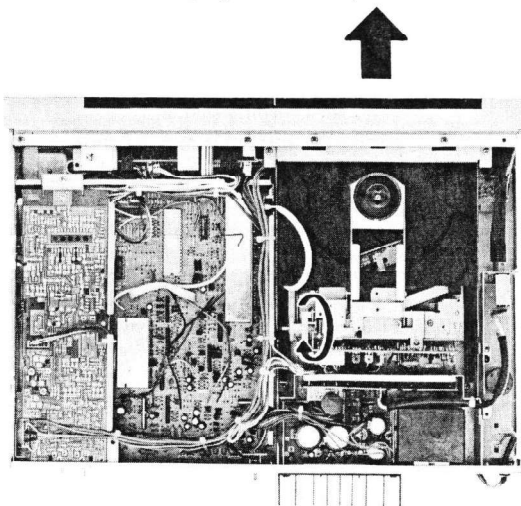

Figure 4
2. Turn gear clockwise by your hand, and tray will be opened. (Figure 4)